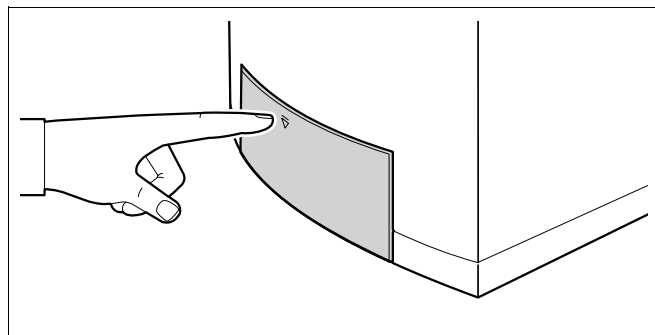

fig. 3 Opening the control panel
- Briefly press on the control panel cover to open it (see fig. 3).